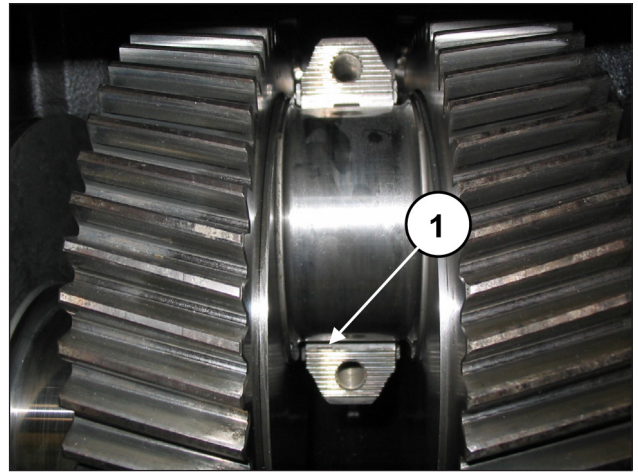

Fig. 81
For proper assembly of the half-bearings, ensure that the reference tab on the half-bearings are positioned in their housing on the half support (pos. ①, Fig. 81).